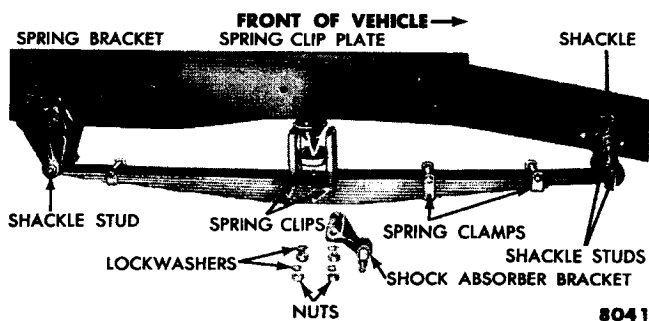

Fig. 13—Front Spring, Disassembled
(1) **REMOVAL.** Raise the truck frame until the weight is off the front springs with the wheels still touching the floor. Remove the nuts from the lower shackle stud and the bracket. Remove the nuts from the two spring clips (U-bolts) which hold the spring on the axle (fig. 13).
(2) **INSTALLATION.** Position the spring on the spring seat, then align the front spring eye with the spring bracket (fig. 13). Insert the shackle stud through the bracket and spring with the lubricator fitting on the shackle stud facing outward. Install the nut and draw it up snug, then back it off one-third turn. Install the cotter pin.